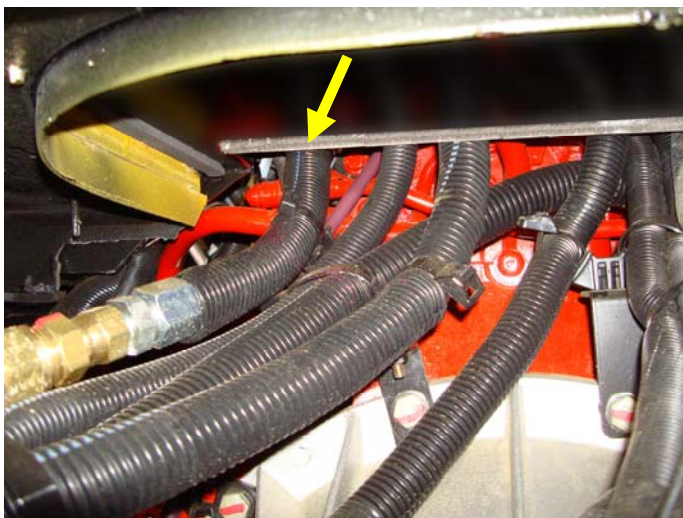

Fig. 1
2. Inspect the fuel lines for interference with the transmission body floor access cover on the left hand side of the vehicle, under the driver's seat, at the top of the transmission. Minimum of .25 inch clearance is required. (Fig. 1) This is also visible from above the engine.